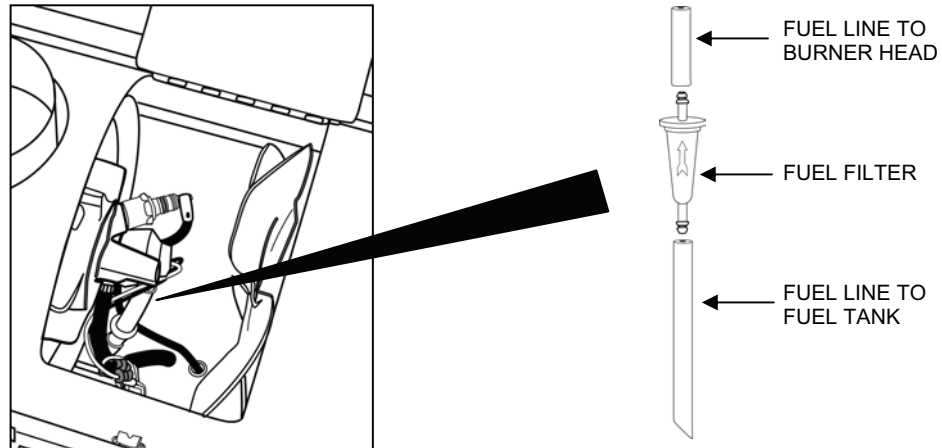

Figure 4. Diesel Heater Fuel Filter Removal and Installation.
6. Fuel filter removal Method One (see Figure 4):